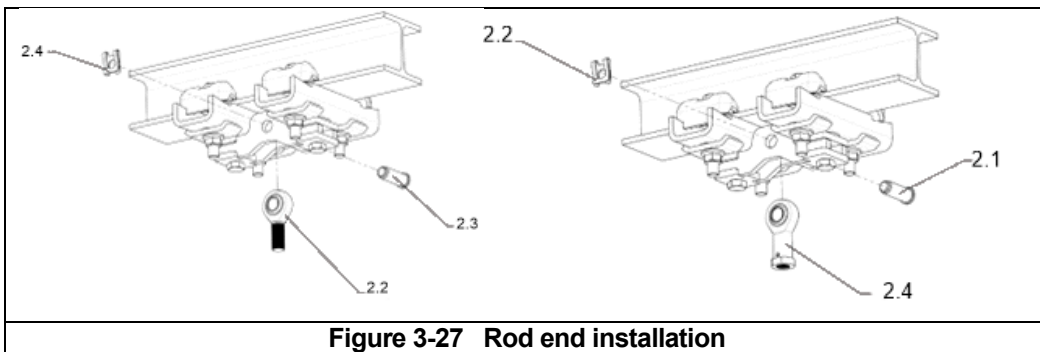

**Figure 3-26** The suspension coupling must be aligned with the center of the beam
6. Adjust assembly so that the centerline of the suspension girder is aligned with the beam centerline (**Figure 3-26**).